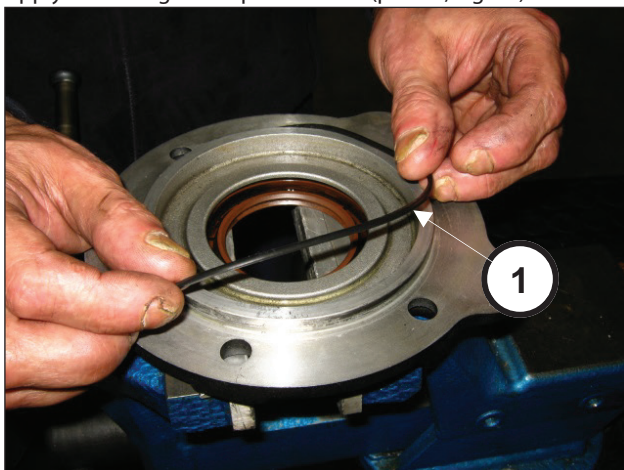

Fig. 85
Apply the O-ring to the pinion cover (pos. ①, Fig. 85).